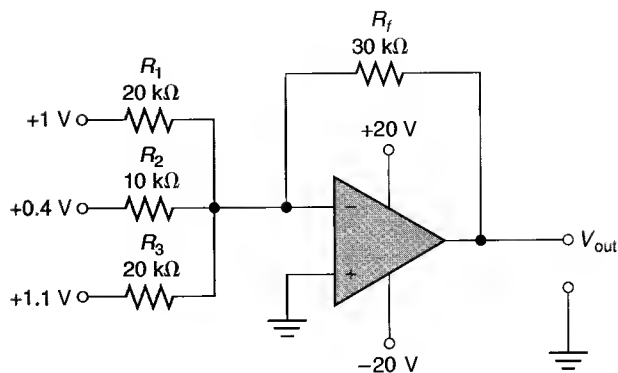

FIGURE 16.42
15. Derive the general-class equation for the summing amplifier in Figure 16.42. Then, use the equation to determine the output voltage for the circuit.
16. The feedback resistor in Figure 16.42 is changed to $24 \text{ k}\Omega$. Derive the new general-class equation for the circuit, and determine its new output voltage.